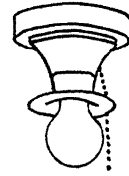

Fig. 11
*Closet.*—An outlet with bulb attached and equipped with a door switch is the most convenient. However, a pull chain socket (Fig. 11) is cheaper. The socket is handy if placed high in the room and just inside the closet at the knob side of the door. A 25- to 60-watt bulb gives adequate light for closets, depending on the size of the closet and color of its walls. High intensity of illumination in a closet makes it easy to find articles quickly. Since a light is used in a closet for short periods of time, a large bulb is practical, as it may be a time saver.